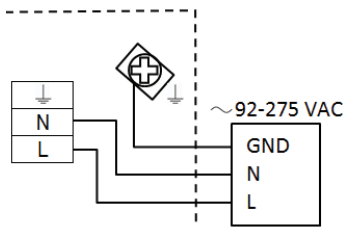

Figure 1: Power supply 92...275V AC (50/60 Hz); recommended cable size min. 0.3 sq. in. (0.75 mm2)
5. Connect the power as shown in *Figure 1* or *Figure 2*, depending on the version (AC or DC) of meter you have.